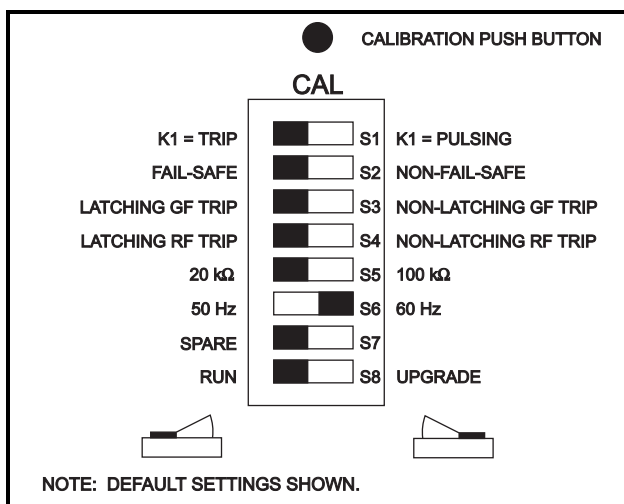

FIGURE 1. Configuration Switches.
8. Set switch S8 (behind access cover on the SE-330 front panel) to UPGRADE. See Fig. 1.